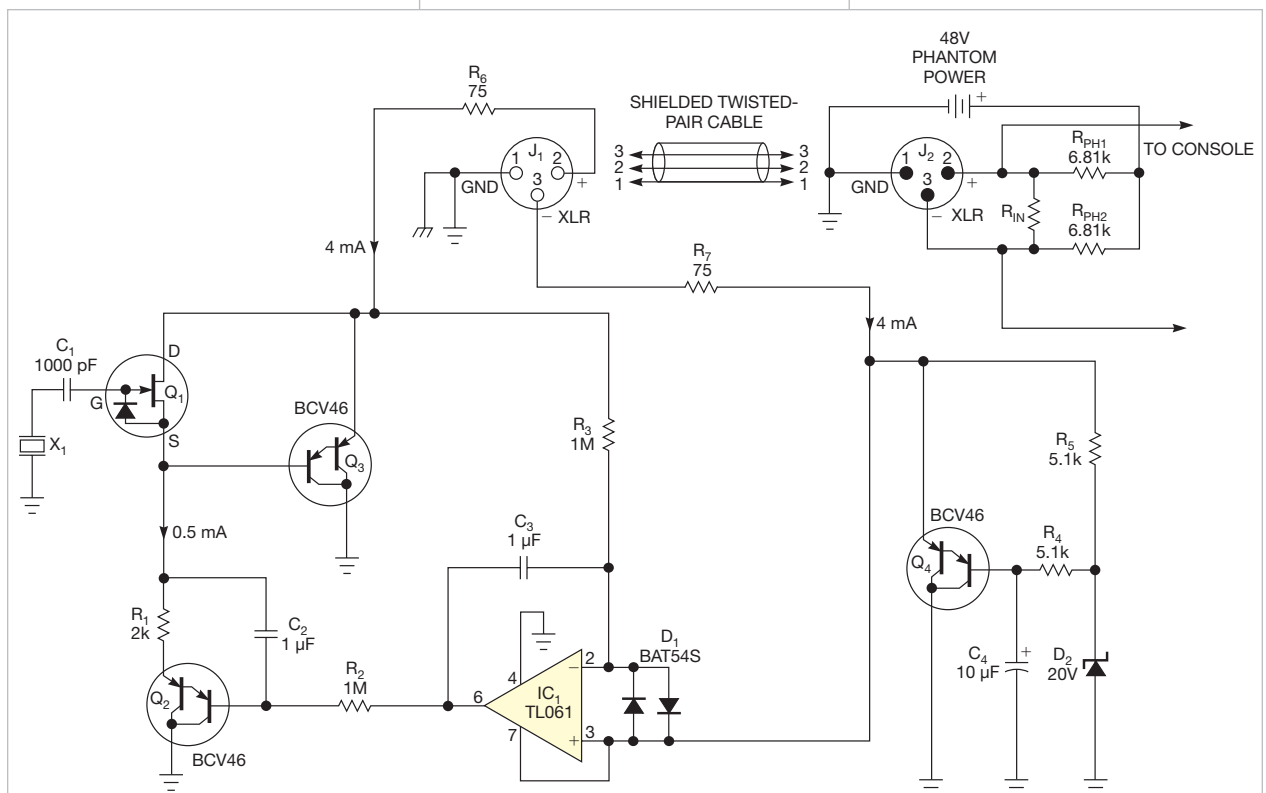

Figure 1 A feedback loop balances the dc voltage on the paired cable conductors, which power high- to low-impedance converter  $Q_1$ .
Figure 1 shows the self-balanced impedance converter. The self-polarized electret condenser-microphone capsule,  $X_1$ , connects to the high-impedance gate of JFET  $Q_1$ .  $Q_2$ , an ac-current source, loads source follower  $Q_1$ .  $Q_2$ , thanks to  $C_2$ , has high impedance but allows a fixed dc voltage on the  $Q_1$  source.
equal to the op amp's input offset voltage. Thus, if the microphone input at the mixer console is transformer-coupled, both ends of its winding are at the same voltage. No dc will flow through the winding and saturate the core.  $IC_1$  should have a common-mode-input-voltage range equal to that of the positive-supply rail. You can accomplish this task using, for example, an op amp with a P-channel JFET input stage. Tables 1 and 2 and Figure 2 show typical performance parameters for the impedance converter in Figure 1. EDN
Figure 2 The voltage-noise density versus frequency for the circuit of Figure 1 varies with different types of input JFET  $Q_1$ . The source impedance of  $X_1$  is 10 pF.
tions. The inexpensive sawtooth generator in Figure 1 suits use in low-power applications operating at frequencies as high as 10 MHz and beyond and
**Figure 1** You can use the  $C_T$  ramp's charge and fast discharge to produce a sawtooth. The upper and lower trip-point voltages of the Schmitt trigger limit the sawtooth. See text for the values of  $V_{CC}$ ,  $C_T$ , and  $R_T$ .
The circuit in Fig 1 supplies both 3.3 and 5V to transitional circuits that employ both the new 3.3V and older 5V devices. Additionally, because the regulator accepts either 3.3 or 5V inputs, you could plug it into either a new 3.3V system or an old 5V system.
**Figure 1** During the transition from 5V components to 3.3V components, dual-output regulators such as this one will let engineers design surface-mount pc boards bearing both 3.3 and 5V devices. Further, this novel regulator will accept either 3.3 or 5V input power.